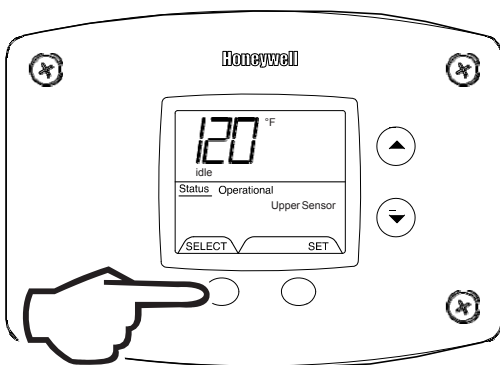

Fig. 46
- For water heaters using two temperature sensors, pressing the 'Select' button again displays the Upper Sensor temperature reading. 'Upper Sensor' will be displayed in the lower right side of the status window of the water heater display (Fig. 46).